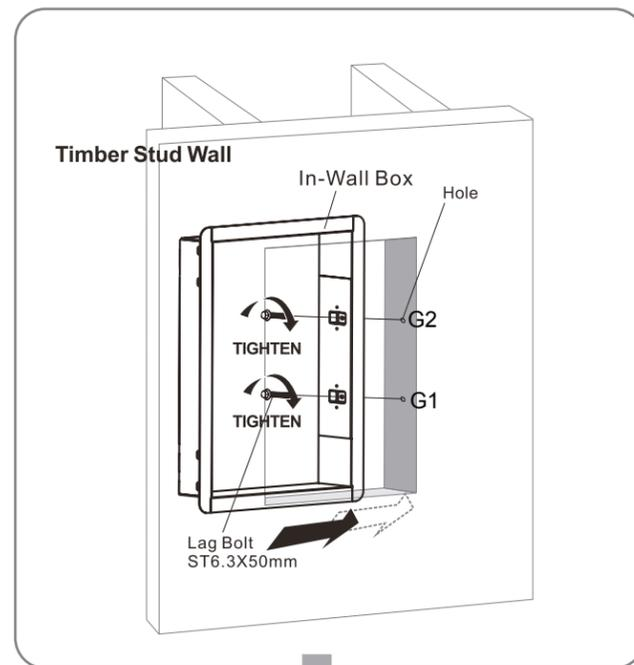

fig. 2
A5: Insert Metal in wall box into opening. Take two screws (G) from Bits Bag. Using a wrench tighten screws G1 and G2. Shown in Fig 2.